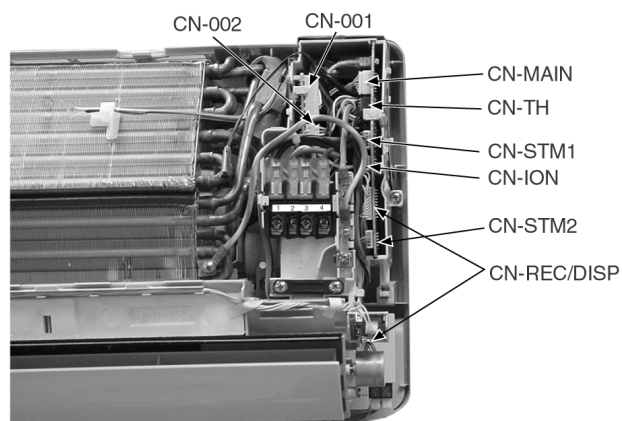

Fig. 4
- Release the CN-REC/DISP connectors. (Fig. 4)
- Release the CN-TH connector. (Fig. 4)
- Release the CN-MAIN connector. (Fig. 4)
- Release the CN-001 connector. (Fig. 4)
- Release the CN-002 connector. (Fig. 4)
- Release the CN-STM1 connector. (Fig. 4)
- Release the CN-STM2 connector. (Fig. 4)
- Release the CN-ION connector. (Fig. 4)